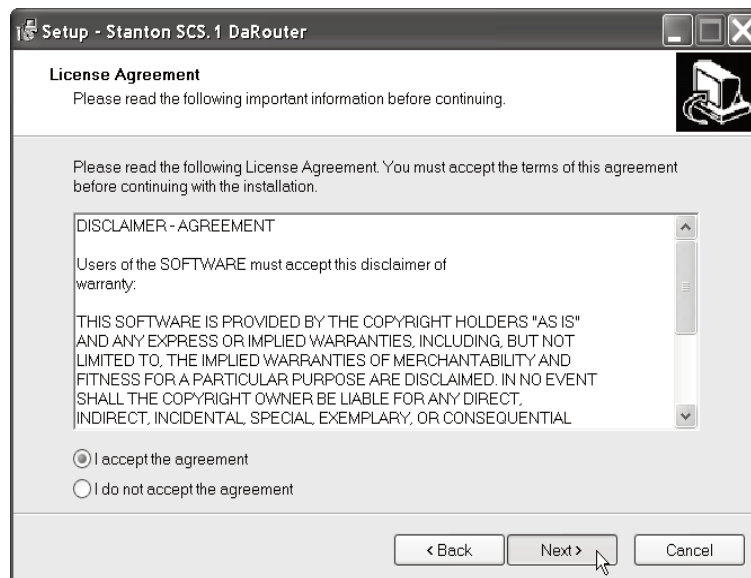

Figure 4.4
- Read the License Agreement, select the "I accept the agreement" option, and then click **Next**. (Figure 4.4)